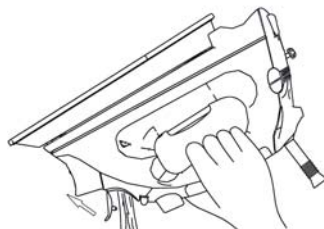

Fig. 11
5. Turn the iron upside down over the sink with the tip pointing downward and allow the water to flow from the opening. See figure 11.